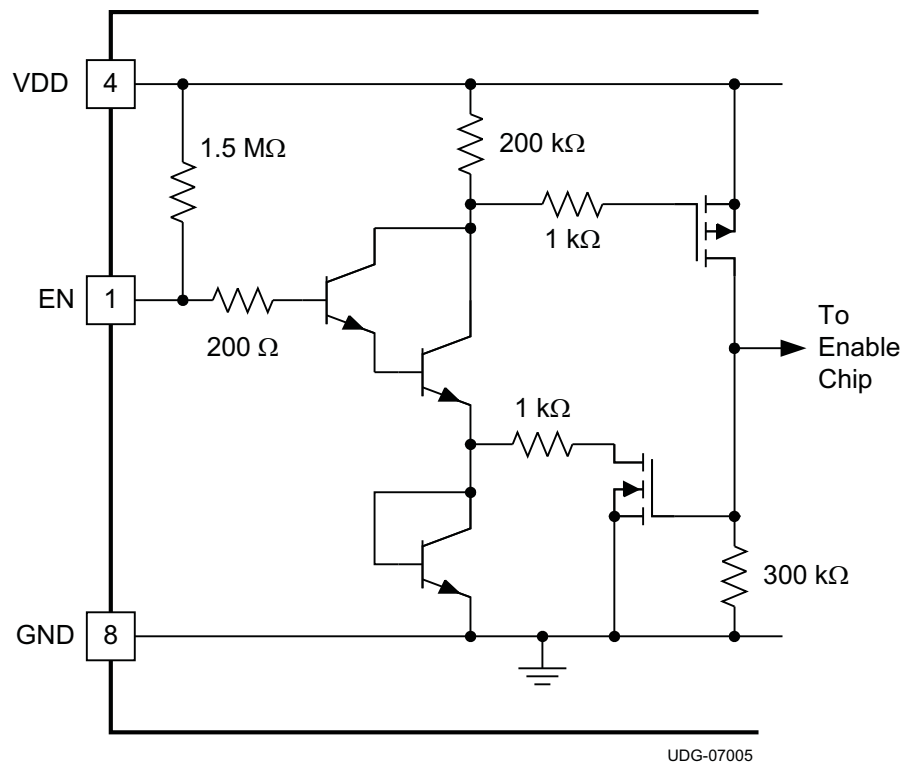

Figure 16. TPS40195 EN Pin Internal Circuitry
The TPS40195 has a dedicated device enable (EN) pin. This simplifies user level interface design since no multiplexed functions exist. Another benefit is a true low power shutdown mode of operation. When the EN pin is pulled to GND, all unnecessary functions inside the IC, including the BP regulator, are turned off and the TPS40195 consumes a typical 165- $\mu$ A of current. A functionally equivalent circuit to the enable circuitry on the TPS40195 is shown in Figure 16.